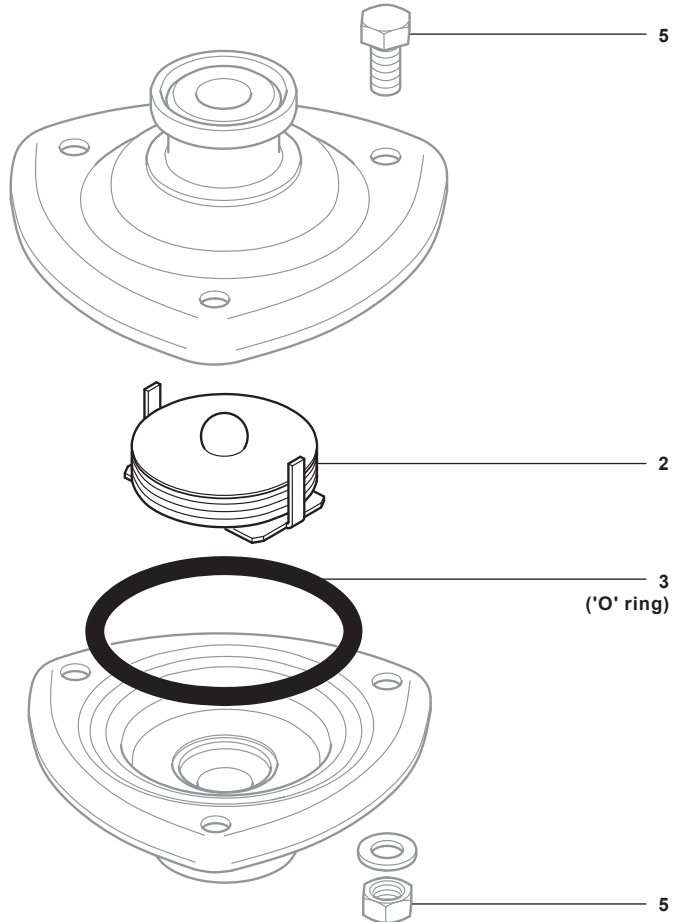

Fig. 2
- The end connection with internal seat, gasket and capsule assembly can then be removed for cleaning or replacement. Ensure that the capsule on reassembly is fitted in the correct position (see Figure 2, page 10).